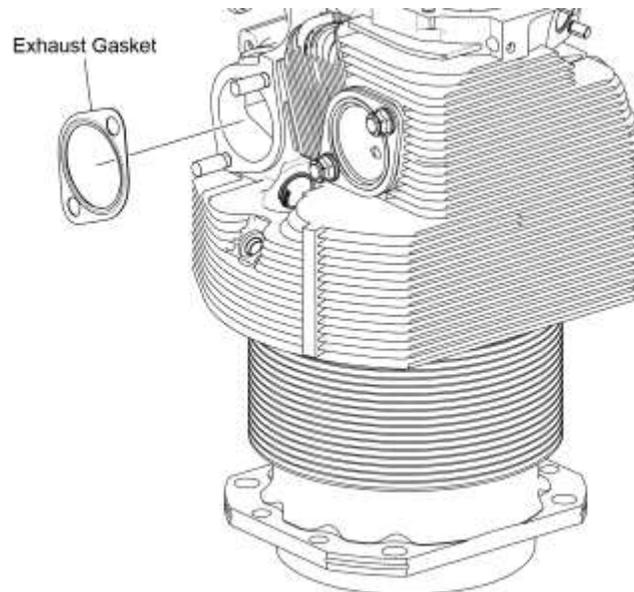

Figure 1
- (8) Apply a slight inward pressure to the pin and slowly turn the magneto drive shaft in the direction of normal rotation until the shoulder of the pin seats against the distributor block. When correctly engaged, the timing pin will be inserted 7/8 in. (22 mm) into the distributor block.
- (9) If not already done, turn the crankshaft in the direction of normal rotation until the correct advance timing mark on the starter ring gear support aligns with the reference point on the engine (Figures 1 or 2).
- (10) Apply Lubriko grease to the mating flange and install a new gasket on the mating flange of the magneto.
- C. Replace any leaking gaskets (Figure 1).